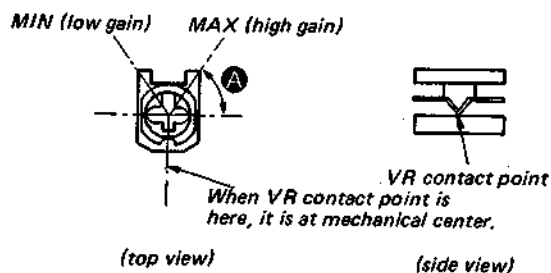

Fig. 8 Mechanical Center (seen from chip mounted side)
6. Set RV501 to the position about 30° counterclockwise from the position obtained in step 5. If RV501 contact point location is within the range shown in Fig. 8 **A**, tracking gain is too high. In this case, readjust from step 4.